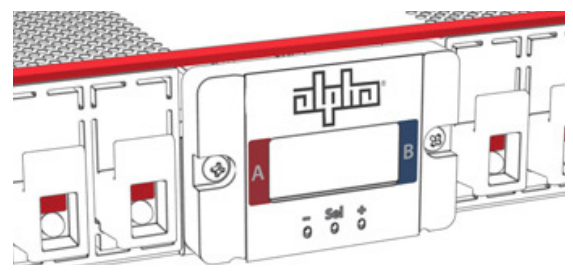

Figure 2. Meter module
- Advanced LCD display (panels with meter module; Figure 2)